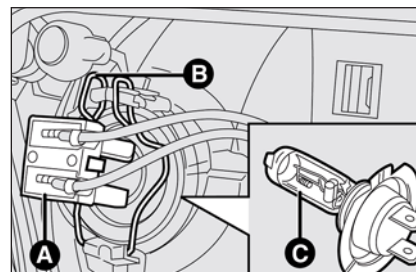

fig. 24
- ☐ disconnect the electric connector **A-fig. 24**;
- ☐ release the bulb holder catch **B-fig. 24**;
- ☐ remove the bulb **C-fig. 24** and replace it;